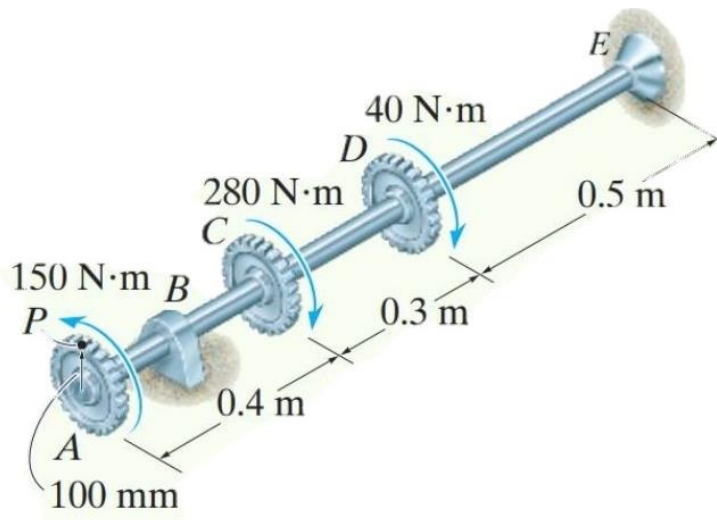

Figure Q2
2. The gears attached to the fixed-end steel shaft are subjected to the torques shown in **Figure Q2**. The shear modulus of elasticity is $G = 80 \text{ GPa}$ and the shaft has a diameter of 14 mm. The shaft turns freely within the bearing at B .